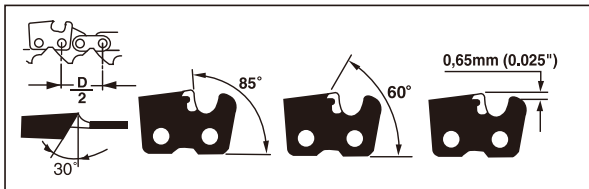
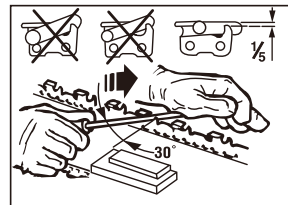

Fig. 21
Fig. 22
**CHAIN SHARPENING** - The pitch of the chain (Fig. 21) is 3/8" LoPro x .050".
Always sharpen the cutters only with outward strokes (Fig. 22) observing the values given in Fig. 21. After sharpening, the cutting links must all have the same width and length.